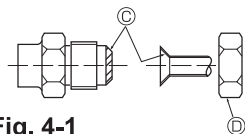

Fig. 4-1
Ⓐ (Fig. 4-1)
Ⓑ (Fig. 4-1)
4.2. Connecting pipes (Fig. 4-1)